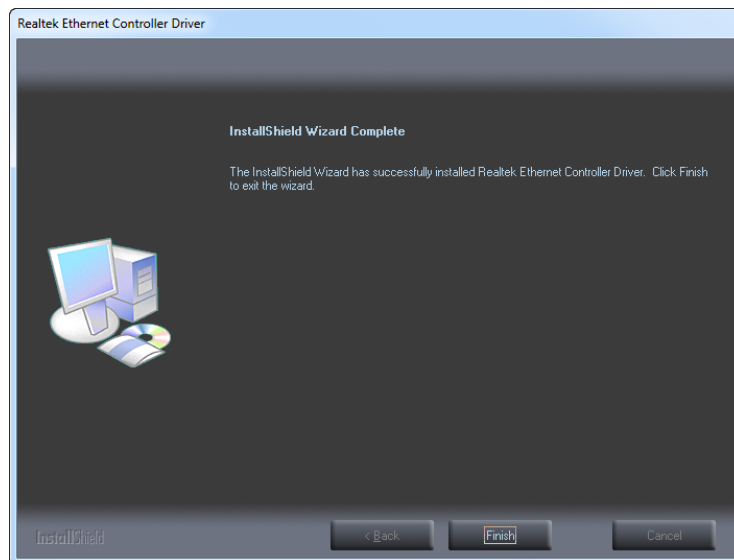

Figure 8-21: LAN Driver Installation Complete
Step 10: When the driver installation is complete, the screen in **Figure 8-21** appears.